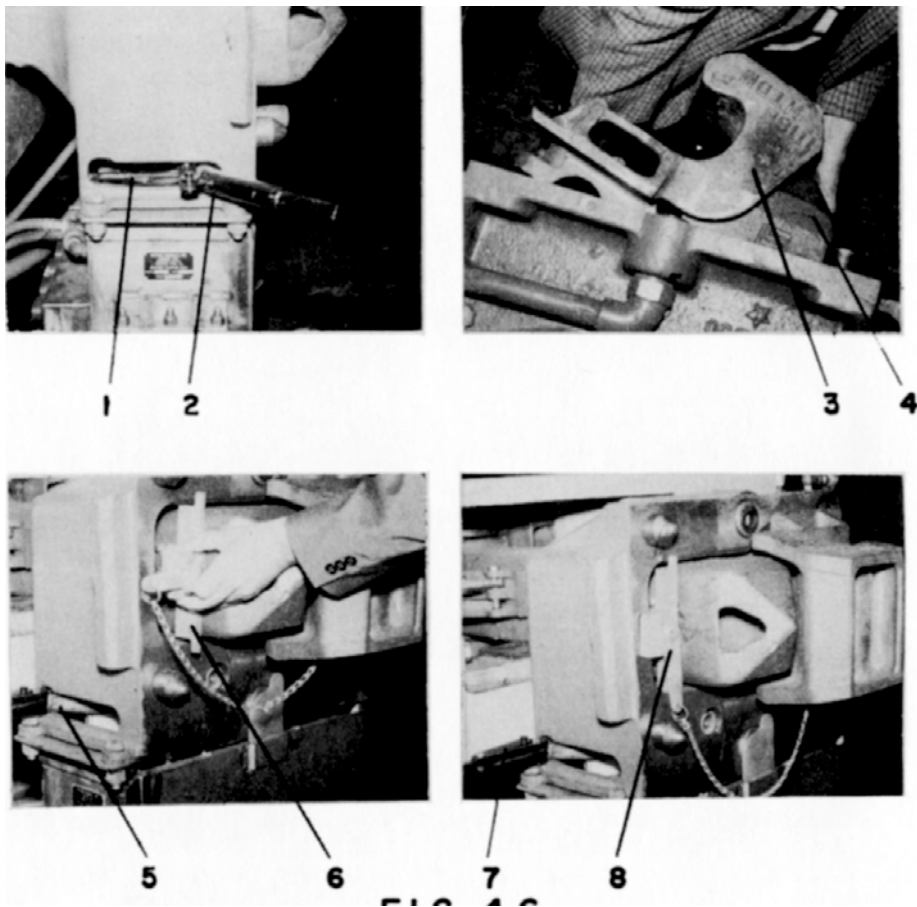

FIG. 46
2. To install the Adapter, refer to Fig. 46.
- b. Both coupler hooks will open when the Manual Coupler Operating tool (2 Fig. 46) is used on either coupler